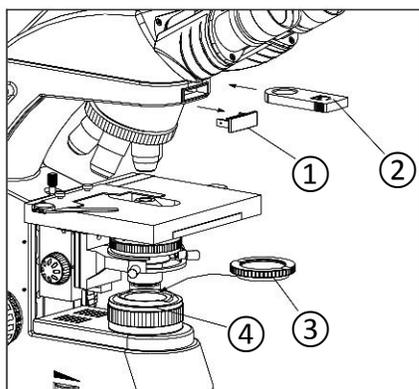

Fig. 21
Simple polarizing includes the analyzer ② and the polarizer ③. (Fig. 21)